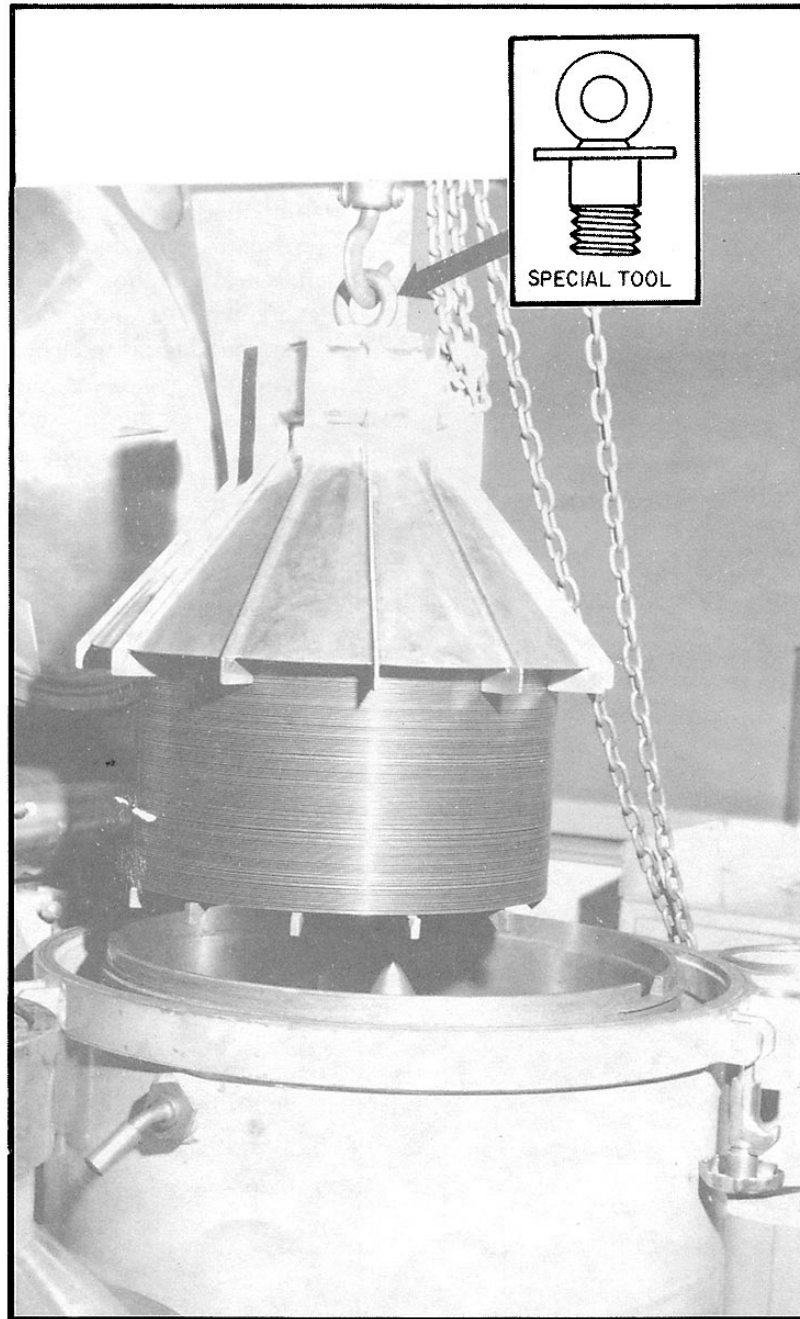

Figure 4-38.—Removing disk stack.
7. Remove the tubular shaft, top disk, paring disk, and intermediate disks, with the chain hoist, using the special tool provided. (See figure 4-38.)